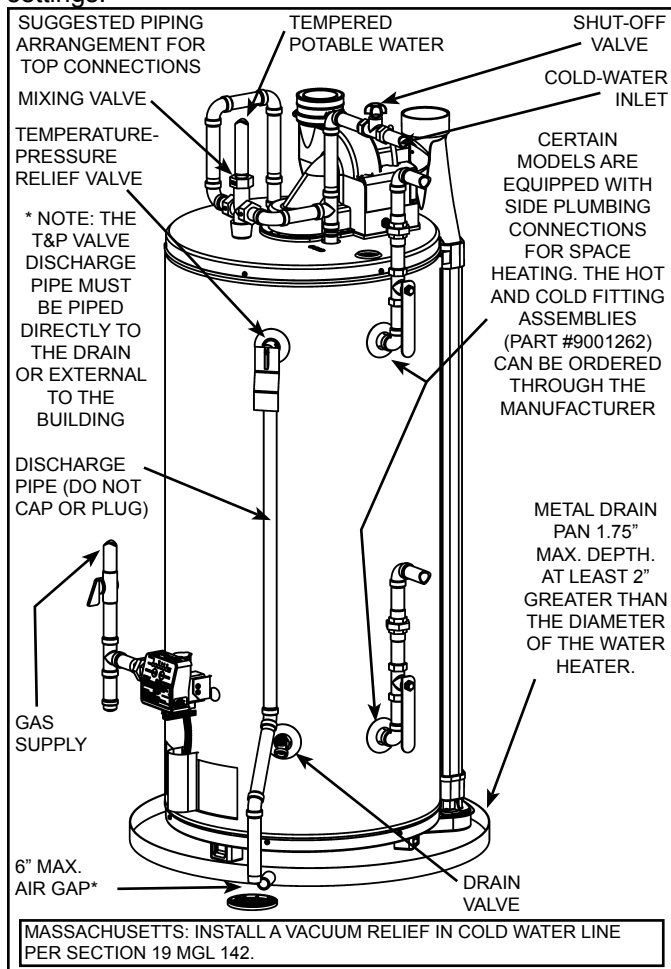
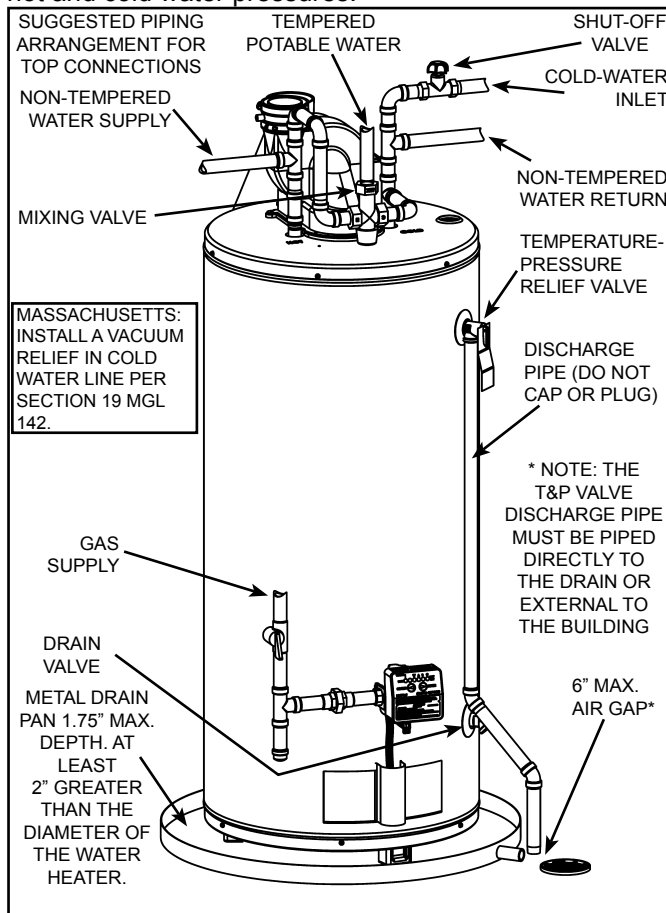

Figure 8.
Figure 9.
Models equipped with Combo Heating capabilities are shipped with the two side plumbing taps **OPEN** (items 18 and 20 in Figure 1 and see also Figure 8 & Figure 25). If the heater is to be operated without using the side taps, these openings **must be closed** with the two pipe plugs supplied with the heaters.
In addition to using lowest possible temperature setting that satisfies demand of application, a mixing valve should be installed at water heater (see Figure 8 & Figure 9) or at hot-water taps to further reduce system water temperature. Mixing valves are available at plumbing supply stores. Consult a Qualified Installer or Service Agency. Follow mixing valve manufacturer's instructions for installation of the valves. Before changing the factory setting on the thermostat, read the "Operating The Temperature Control System" section in this manual.